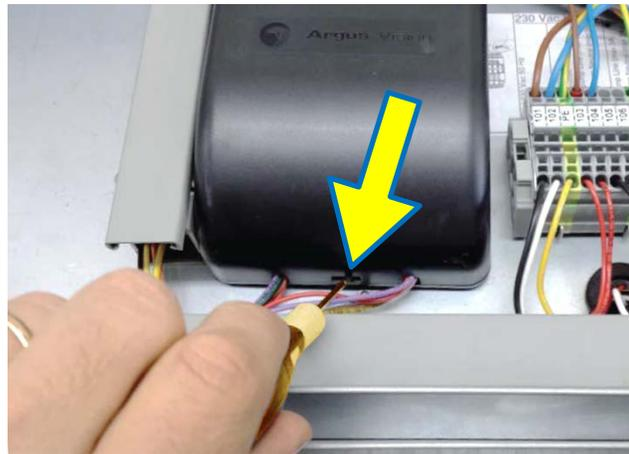

Figure 1-7: Using Screwdriver to Remove Communications Board Cover
1. Using a flat head screwdriver, open the communications board cover (see Figure 1-7).